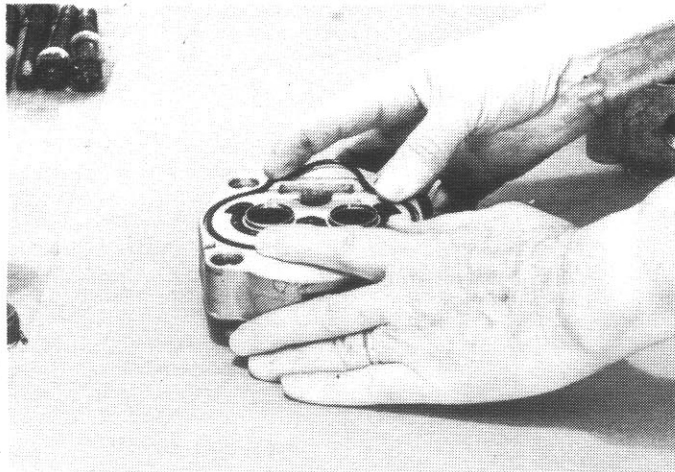

Fig. 20
24. Install back-up ring (4), and o-ring (6) in flange plate (3). Use clean heavy grease to hold o-rings in grooves. (Fig. 20)